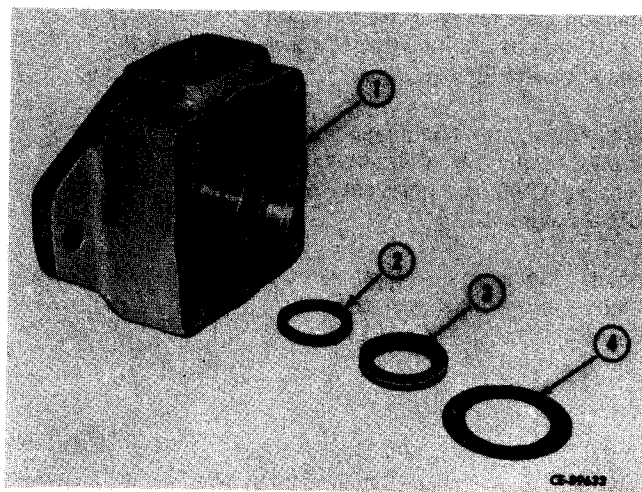

Figure 11-22
Remove washer (4, Fig. 11-22), seal (3) and wiper (2) from body (1).
Install washer (4, Fig. 11-22) in body (1).